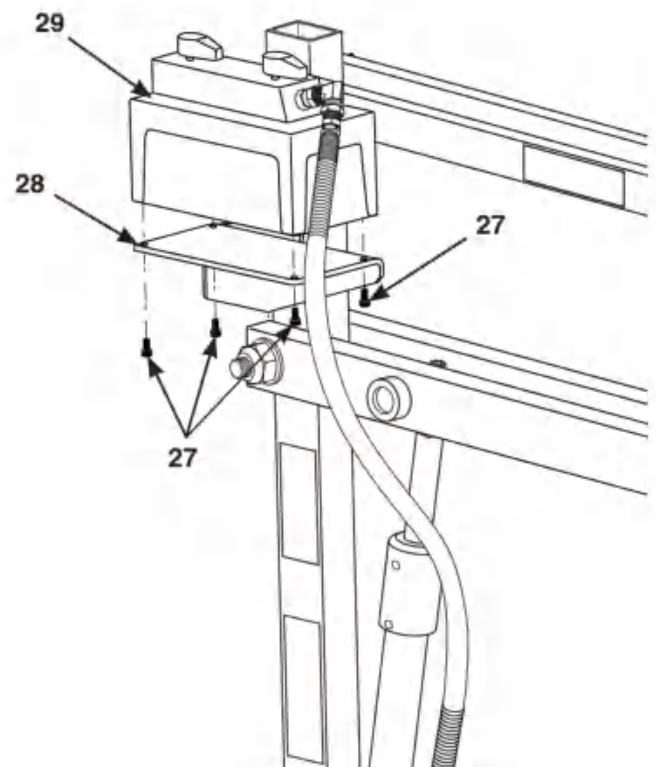

Figure 12
18. Mount the hydraulic pump (29) to bracket (28) using four socket head cap screws (27). **See Figure 12.**